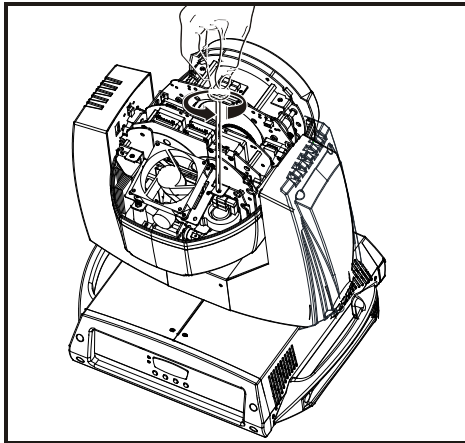

Figure 2
2. Position the head as Figure 2 and remove the lamp cooling fan at the rear of the head.